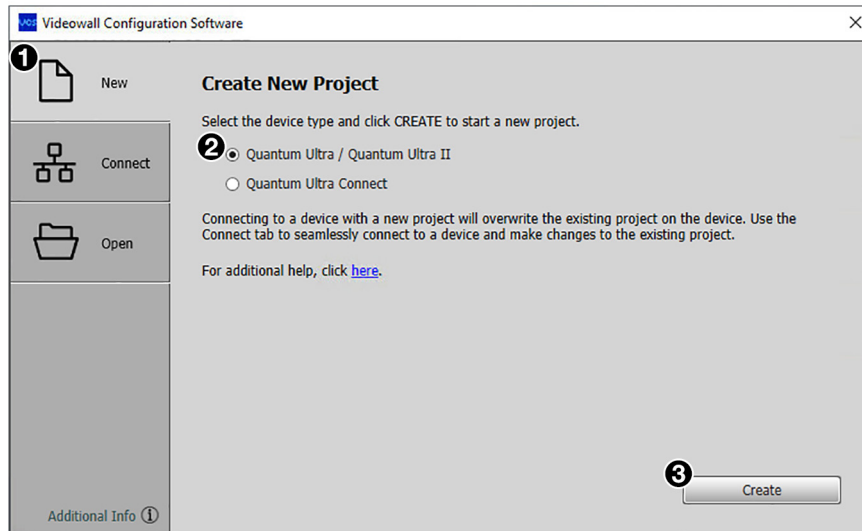

Figure 78. New Tab on the Start Screen
2. On the VCS Start screen, select the **New** tab (see figure 78, ❶).
3. On the Create New Project screen, select the **Quantum Ultra/Quantum Ultra II** radio button (❷), then click **Create** (❸).